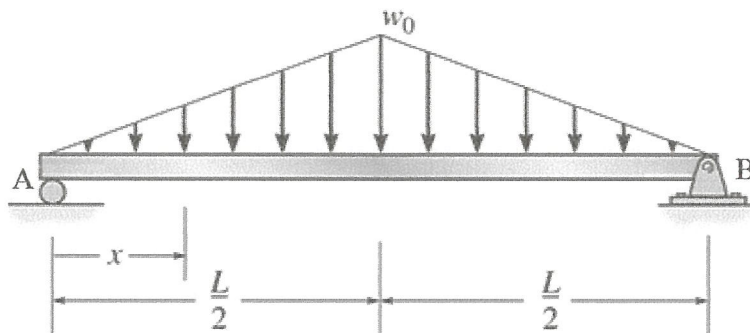

Figure Q2(b)
- (b) In the laboratory testing, the wing spar of Learjet 29 is subjected to a triangular distributed loading as shown in **Figure Q2(b)**. W_0 and L are given as 10 kN/m and 6 m, respectively and EI is constant. Determine: